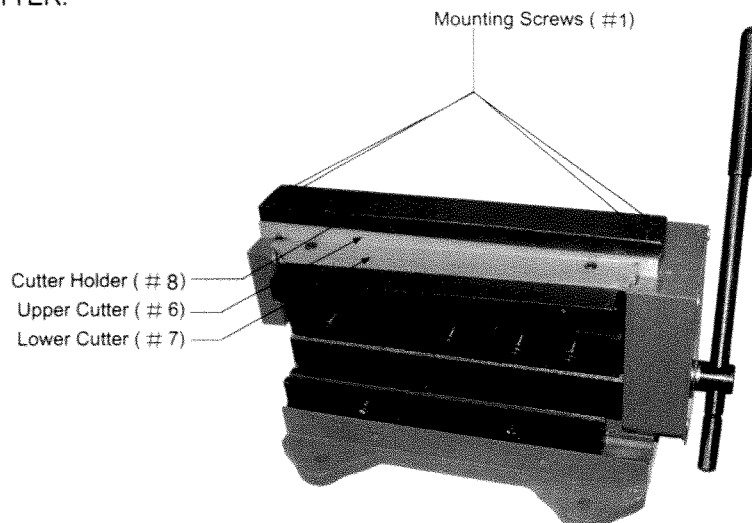

Figure6 - Removing the Upper Cutter
Step 3: Remove the UPPER CUTTER as shown in Figure 6. There are four cutting edges on the UPPER CUTTER. If you have not used all four cutting edges, you can rotate the UPPER CUTTER to expose a sharp edge and reinstall without purchasing a replacement UPPER CUTTER.